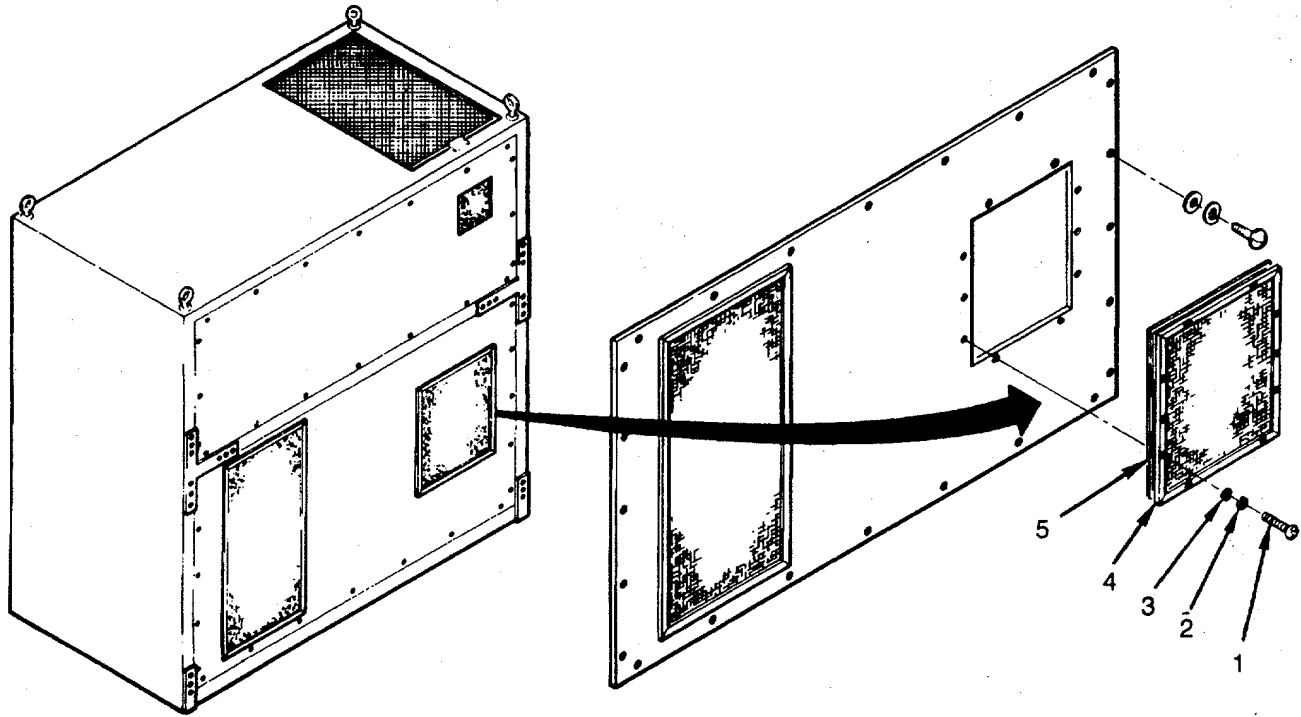

Figure 6-8. Condenser Air In RFI Filter
1. Remove ten screws (1), flat washers (3), and lockwashers (2) (see Figure 6-8).
2. Remove filter (4).